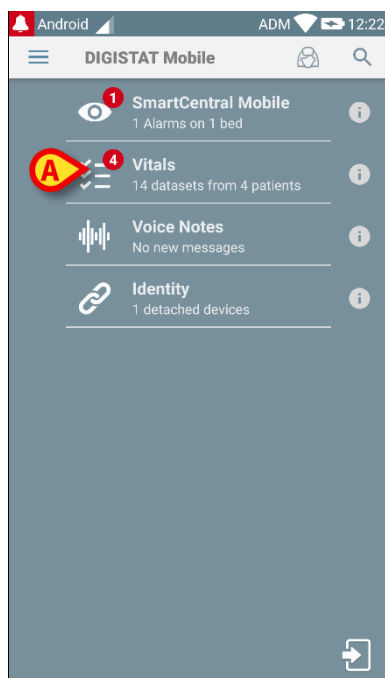

Fig 55
- Touch the corresponding row on the handheld device screen (Fig 55).